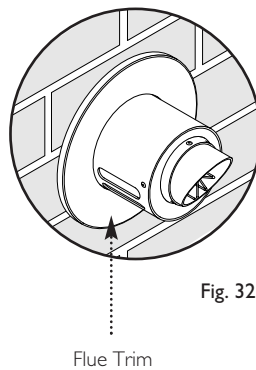

Fig. 32
12. The flue trim should be fitted once the installation is complete and the flue secure. Apply a suitable mastic to the inside of the trim and press against the wall finish, making sure the brickwork is dust free and dry (Fig. 32). If necessary fit a terminal guard (see section 7.9).